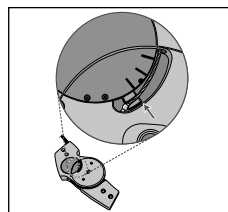

Fig. 5
3. After removal of the cover plate check if the upper side of the Lever Arm (holding the satellite cable) is parallel to the lower of the three markers on the Function Unit (see Fig. 5).
12. Recheck the correct position (Mode 3) of the Lever Arm in the Function Unit of the joint (see Fig. 5).